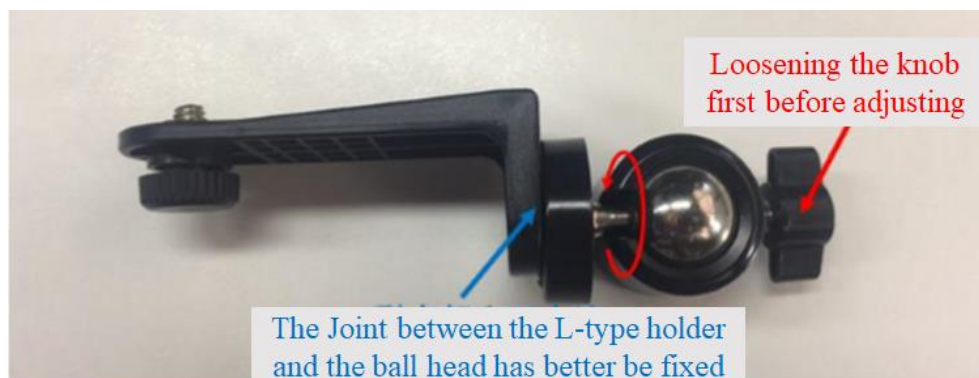

Fig 2-3
- v. For No. = 2~12 sets of data, the sensor rotates 30 degrees along the Z-axis for one set of data. Fig No.2 and Fig No.3 are two examples. Fig 2-3 shows the operation method to rotate a ball head: loosen the knob first, rotate the ball head with the joint fixed between the L-type holder and the ball head, ending with fastening the knob.